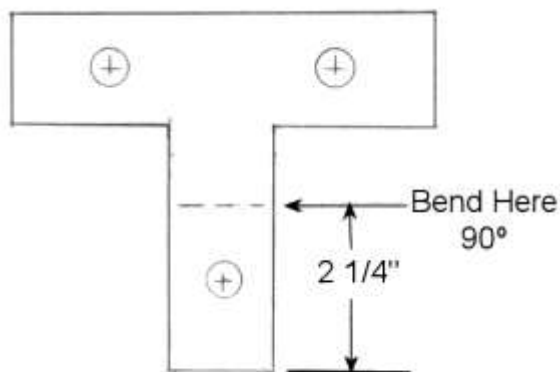
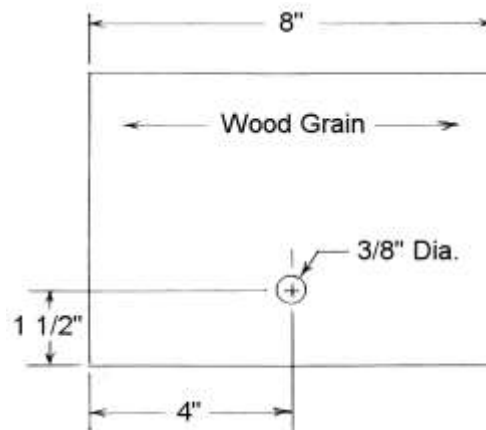

Figure 3 – Simpson T-Strap Tie
Figure 4 – Stringer Support Pad
**Sill Fabrication** - Since most boardwalk locations are remote it helps to fabricate the sill assembly offsite where power tools are readily available. Lumber sills of 2"x6", 4"x6", or 6"x6" stock and plastic pipe sills use a bent Simpson "T" strap (Figure 3) to secure the stringers to the sills. Plastic pipe sills also require a stringer support pad (Figure 4) to provide a flat support surface on the pipe.
**Sill Placement** – After the first sill is in place and level then the stringers can be placed across the span to the second sill and with the use of a carpenter level determine if the second sill has to be dug in more or shimmed up. Shimming is accomplished with an assortment of spacers made from 5/4" or 2" PT boards as depicted in Figure 4 that are placed between the "T" straps and the sill. Once the second sill is in place and leveled then the stringers can be bolted to the "T" straps. The use of bolts to secure the joint not only strengthens it but also facilitates removal of the boardwalk sections if damaged or needing relocation. Maintain a 3/8" gap between stringers at the junction point to allow for vertical flexing in case the ground is (or becomes) spongy. This process is repeated until the last sill is reached. If the wet area experiences high flooding, particularly near brooks, anchor the sills by using re-bar driven at an angle through the sills to prevent the boardwalk from shifting off its footprint. When using steel pipe for stringer support the path of the boardwalk must be probed at stringer-length intervals through the soft soil to the firm sub-soil with a thin, firm rod such as fiberglass wands or 3/8" dia. re-bar. This measurement is needed to calculate the required pipe lengths to support the boardwalk.